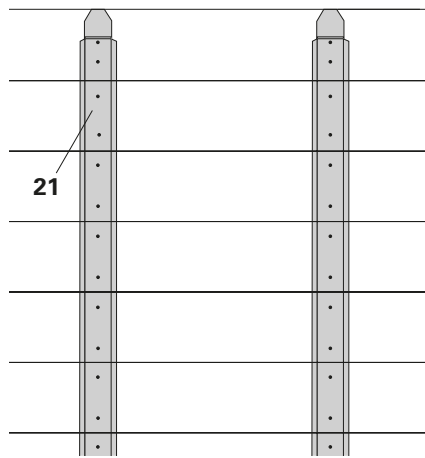

Fig. B2.01
The platform decking is placed on the Formwork Girders GT 24 (21) directly and bolted to each formwork girder. (Fig. B2.01 + B2.02)